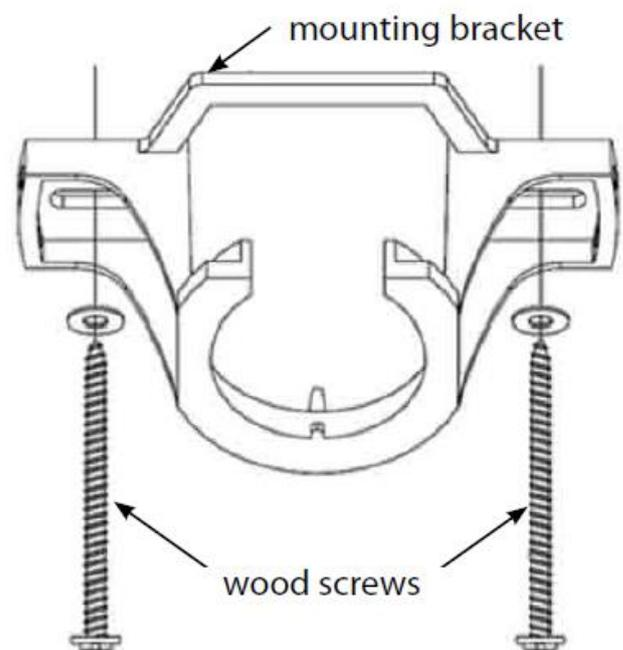

Figure 2
- 3) Install mounting bracket (Fig. 2) to ceiling joist via using long screws provided. Ensure that at least 40mm of the screw is threaded into the support.